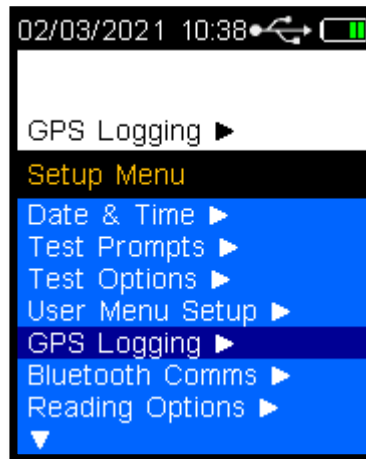

Figure 72 GPS Logging Highlighted
- Press the Down key until *GPS Logging* is highlighted (Refer Figure 72).